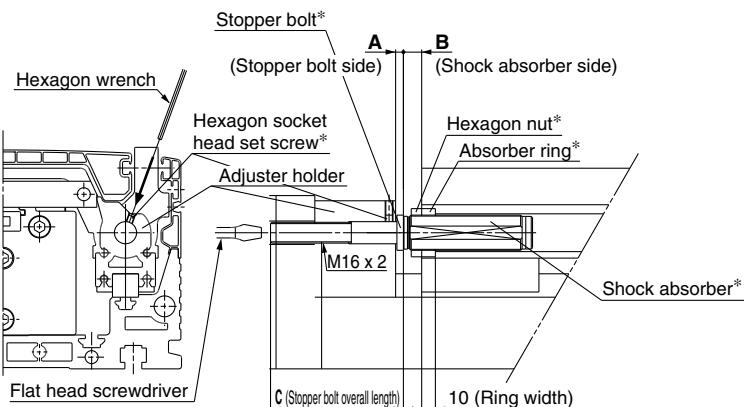

Fig. 1 Stroke adjusting section detail
1. As shown in Fig. 1, to adjust the stopper bolt within the adjustment range A, insert a hexagon wrench from the top to loosen the hexagon socket head set screw by approximately one turn, and then adjust the stopper bolt with a flat head screwdriver.
●The stroke adjustment unit is composed of the components with a * mark in Fig. 1.